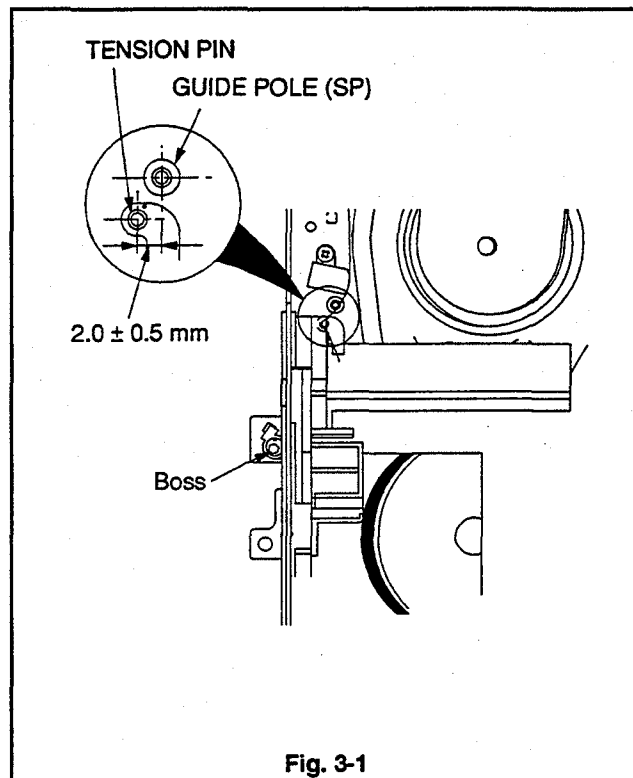

Fig. 3-1
2. Make sure that the TENSION PIN is in the position shown in Fig. 3-1.
3. If the TENSION PIN is not in the position specified in Fig. 3-1, turn the boss to set the TENSION PIN to be in position.